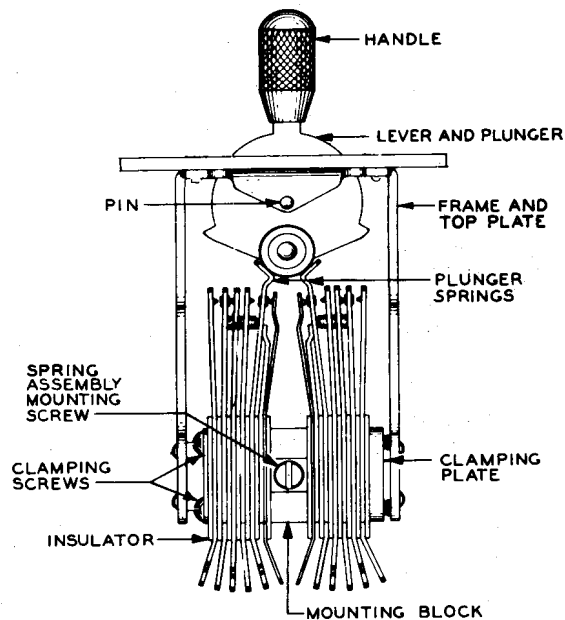

Fig. 56—479-Type Key With Nondie-Cast Frame
3.17 Remove the spring assembly mounting screw with the 3-inch C screwdriver. Unsolder the leads from any plunger springs to be replaced. Remove the spring clamping screws with the 3-inch C screwdriver, and replace the parts requiring replacement. Reassemble the parts and tighten the clamping screws securely. Resolder any leads that were removed. Reposition the spring assemblies, and tighten the spring assembly mounting screw securely. See Fig. 56.